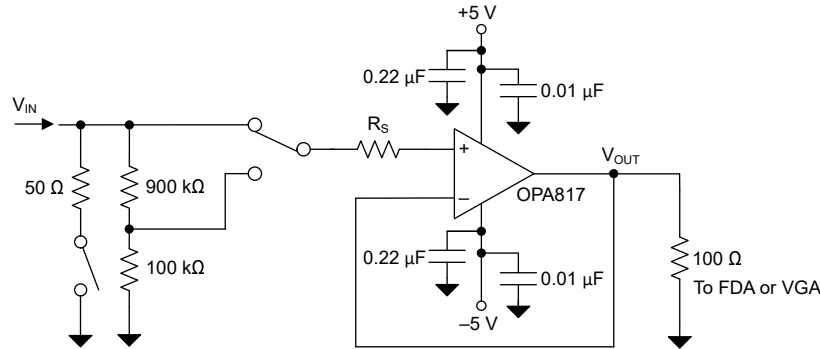
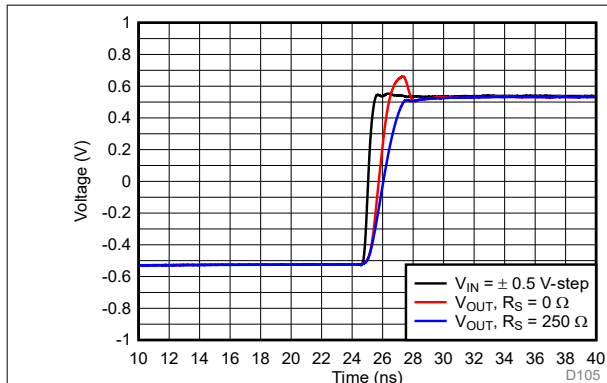
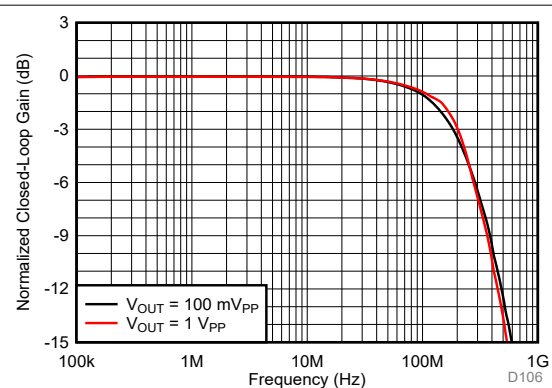

图 8-3. High-Input-Impedance, 200MHz, Digitizer Front-End Amplifier
图 8-4. Step Response of Digitizer Front-End
图 8-5. Frequency Response for  $R_S = 250 \Omega$
- Optimizing Overshoot:** The OPA817 features an internal slew-boost circuit to deliver fast rise-time in applications needing high slew rates such as when configured as a transimpedance amplifier. For applications where overshoot needs to be limited, the input slew rates can be limited with introducing a series resistance ( $R_S$ ) as shown in 图 8-3. The resistance  $R_S$  forms a low pass filter with the input capacitance of approximately 2.6 pF at the noninverting pin of the OPA817 limiting the input slew rate to the amplifier. 图 8-4 shows how limiting the input slew rate to the amplifier results in good overshoot performance, and 图 8-5 shows how this achieves a small signal and large signal bandwidth of 200 MHz.